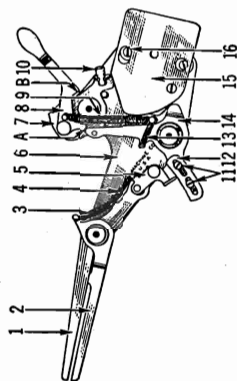

Figure 7
1. **Switch Fails to Trip.** Bend the lug B (Figure 7) so that there will be less contact at point A.
2. **Switch Trips Before the Completion of a Record.** Bend the lug back, so that there will be more contact at point A. (Figure 7.)
b. Increase the tension of the spring 9 (Figure 7) by cutting off one or more of the coils and then replacing the end of the spring over the lug.